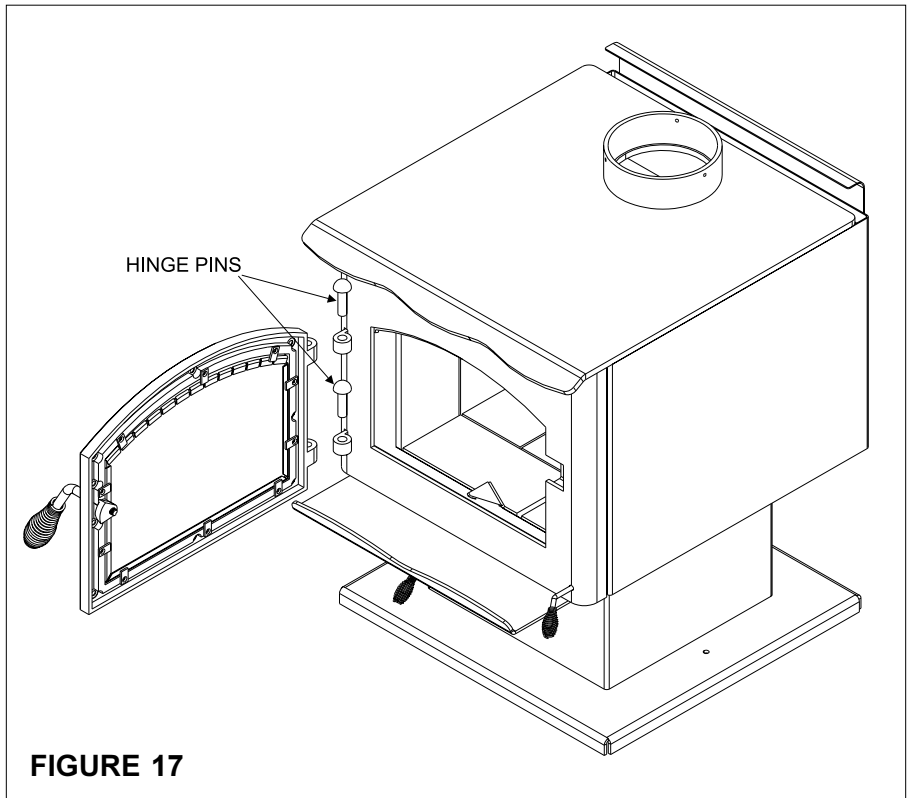

FIGURE 17
1. Firmly hold door so that the hinges on the door line up with the hinges on the stove. The door hinges should be above the stove hinges and the handle should point away from the stove (see Figure 17).